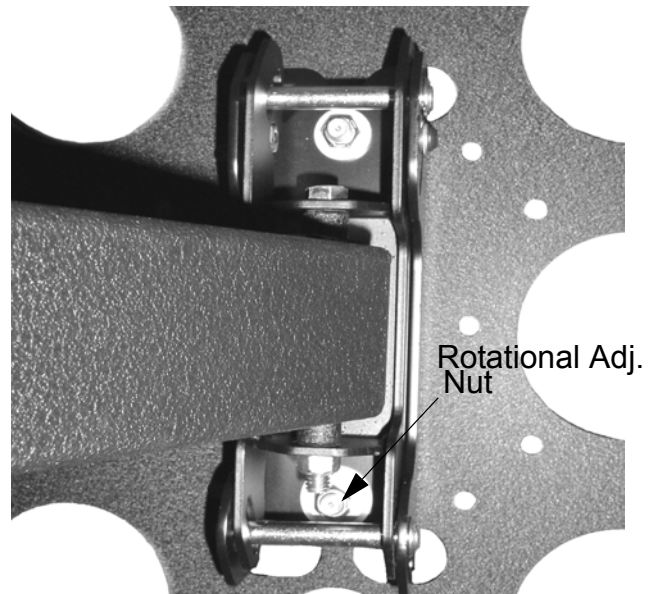

Figure 7. Rotational Adjustment
1. If necessary, loosen or tighten bottom rotational tilt tension adjustment nut (see Figure 7).